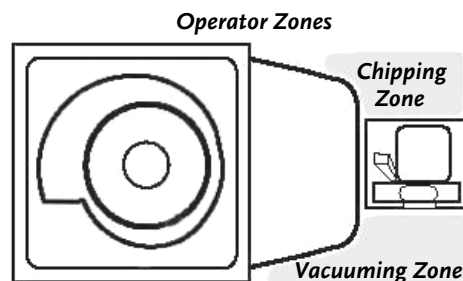

Figure 28
NOTE: *Always be sure to stand inside the **Operator Zones** to run the DR LEAF and LAWN VACUUM as a Chipper or Hand Held Vacuum. These are the areas on either side of your machine (Figure 28).*
- ALWAYS OPERATE THE CHIPPER FROM THE "CHIPPING ZONE" (SEE FIGURE 28 ON PAGE 28).